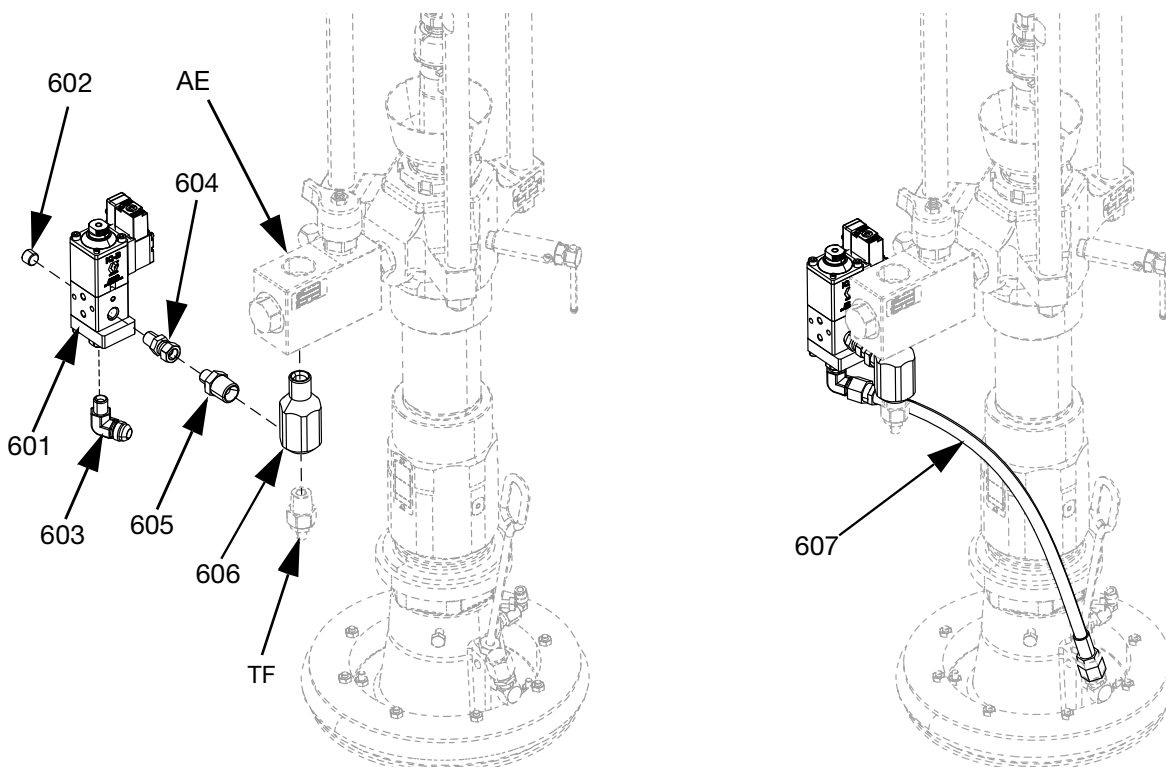
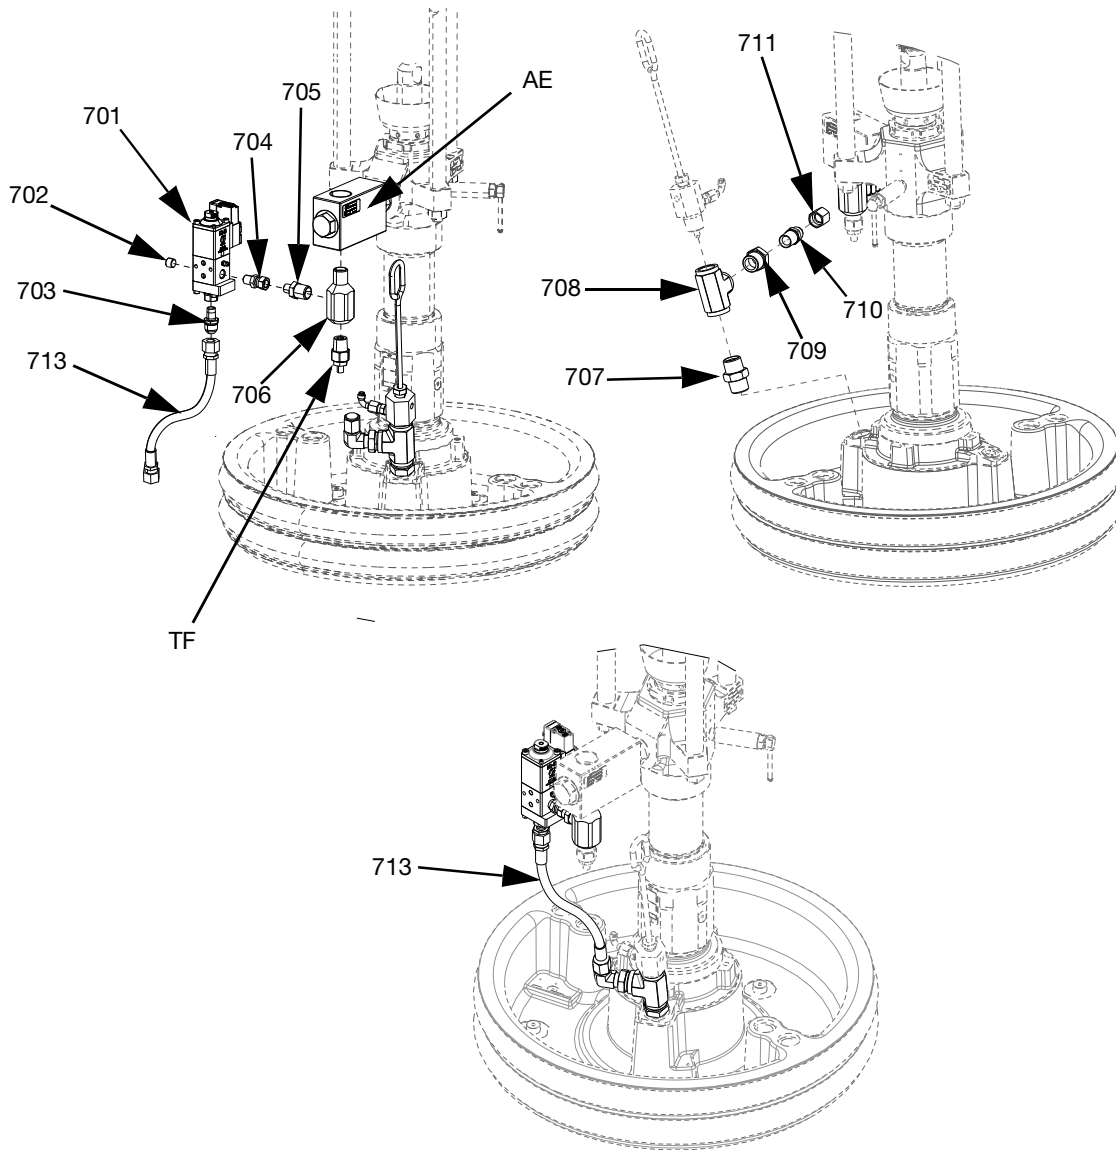

FIG. 66: Platen Valve Kit, 25R452
Fig. 70: Platen Valve Kit, 25R453
2. Disconnect the pressure transducer from port 5 on the Electric Driver (AB).
3. Remove the pressure transducer fitting (TF) and the fitting it is attached to from the Fluid Check Valve (AE).
4. Using thread tape, install the 1/2 NPT tee fitting (606) into the Fluid Check Valve (AE), then reinstall the pressure transducer fitting (TF) into the bottom of the 1/2 NPT tee fitting (606).
5. Using thread tape, install the 1/4 NPT x 1/2 NPT adapter (605) into the 1/2 NPT tee fitting (606). See FIG. 66.
6. Install the platen valve (601) onto the 1/4 NPT fitting (606) using the swivel fitting (604), then tighten.
7. Install the recirculation hose (607) onto the platen valve (601) and tighten.
8. Reconnect the pressure transducer to port 5 on the Electric Driver (AB).
4. Using thread tape, install the 1/2 NPT tee fitting (706) into the Fluid Check Valve (AE), then reinstall the pressure transducer fitting (TF) into the bottom of the 1/2 NPT tee fitting (706).
5. Using thread tape, install the 1/4 NPT x 1/2 NPT adapter (705) into the 1/2 NPT tee fitting (706). See FIG. 66.
6. Install the platen valve (701) onto the 1/4 NPT fitting (706) using the swivel fitting (704), then tighten.
7. Install the recirculation hose (713) onto the platen valve (701) and tighten.
9. Remove the Bleed Stick (EF) and Bleed Port (EG), and install the fittings (707, 708, 709, 710, 711) as shown in FIG. 70.